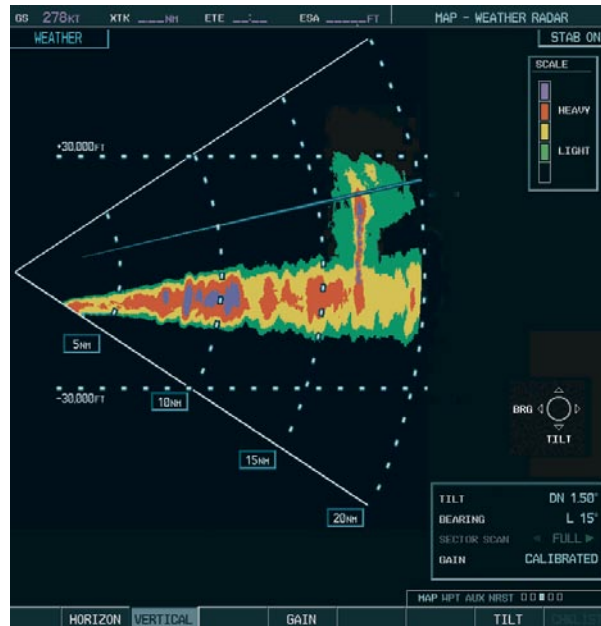

Figure 6-56 Vertical Scan Display
- 4) Select the **VERTICAL** Softkey. A vertical scan of the selected area is now displayed (Figure 6-56).